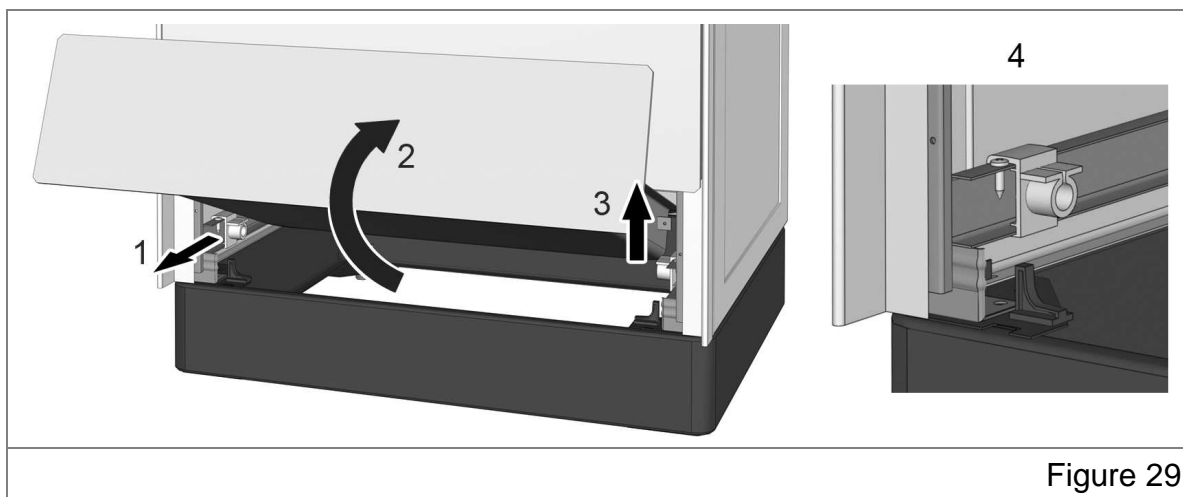

Figure 29
To facilitate the drawing out, lift the drawer slightly and pull it. If you want to take it out from the oven (Figure 29), pull it to the end stop (1), lift the front part at approx. 20° (2) and pull it upwards (3) while in that position to remove it from the lateral drawer guides.